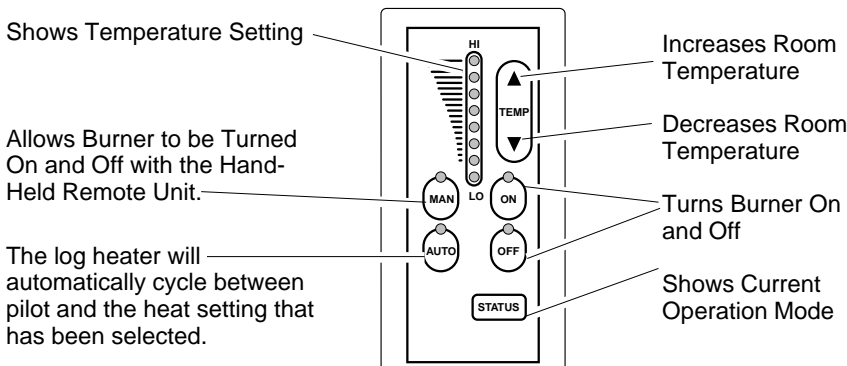

Figure 21 - Thermostat Hand-Held Remote Control Unit Selections (GHRCT Only)
- 2b. Select the MAN (manual) or AUTO button on the hand-held remote control unit (see Figure 21, page 16).